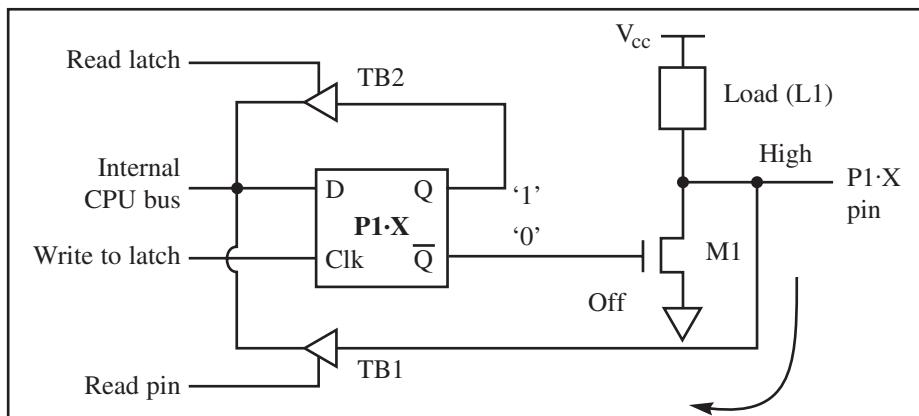

Figure 11. Reading “High” at the Input Pin
1. As can be seen from Figure 11, a 1 written to the port bit is written to the latch and the D latch has “high” on its Q. Therefore, $Q = 1$ and $\bar{Q} = 0$.
4. When reading the input port in instructions such as “MOV A, P1”, we are really reading the data present at the pin. In other words, it is bringing into the CPU the status of the external pin. This instruction activates the read pin of TB1 (tri-state buffer 1) and lets data at the pins flow into the CPU’s internal bus. Figures 11 and 12 show high and low signals at the input, respectively.